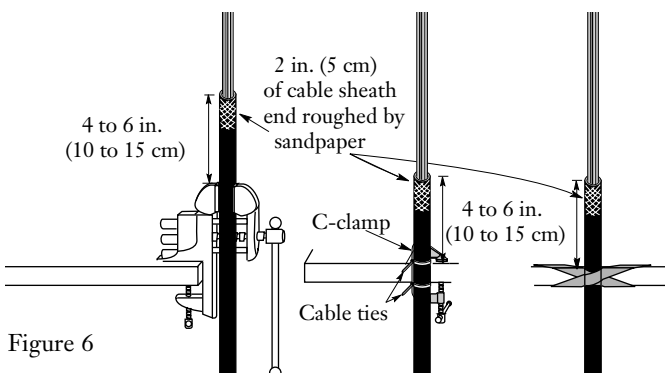

Figure 6
5.8 With the cable sheath end facing up, place the cable end in a table vise approximately 10 to 15 cm (4 to 6 in.) from the cable sheath end (Figure 6). **DO NOT OVERTIGHTEN THE VISE — CABLE DAMAGE AND DEFORMATION WILL OCCUR.**